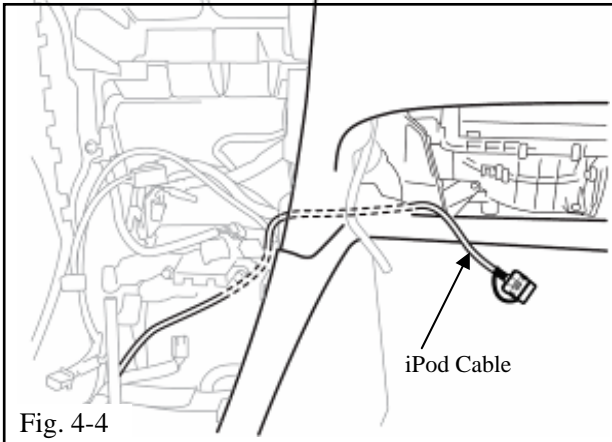

Fig. 4-4
- (g) Route the iPod cable through the head unit area toward the glove box. (Fig. 4-4)